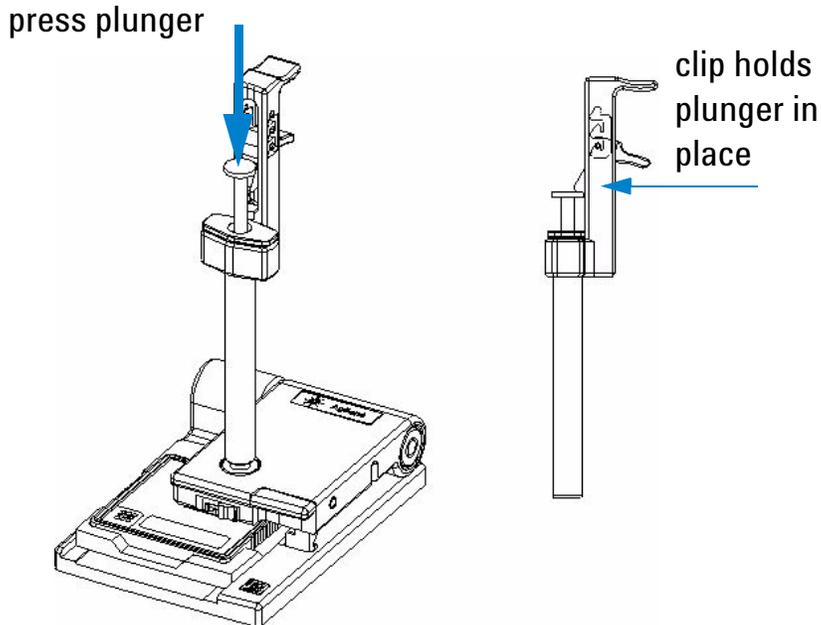

Figure 14 Locking the Plunger of the Syringe with the Clip
- 5 Press the plunger down until it is locked by the clip. This is shown in Figure 14, “Locking the Plunger of the Syringe with the Clip”.